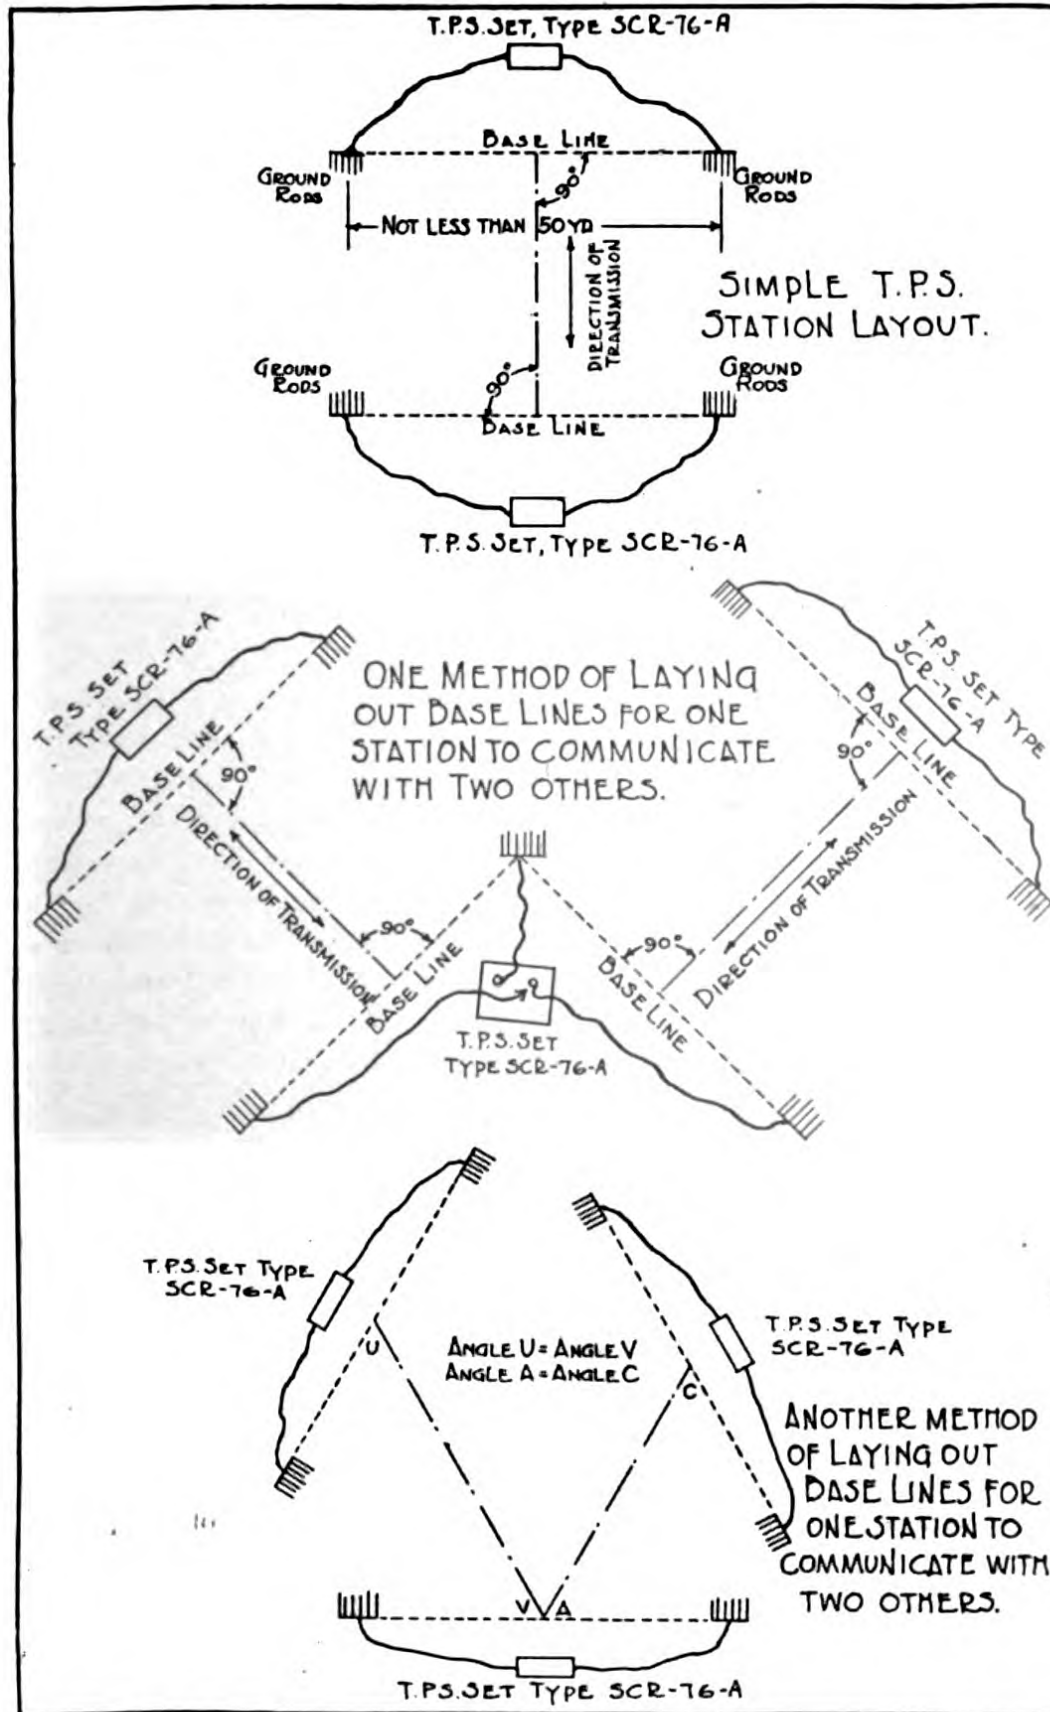

FIG. 6.—Methods of Laying Out a Simple T. P. S. Station, and One Station to Communicate with Two Others.
**How to Lay Out the Base Lines.**—When laying out the base lines of various stations communicating with each other, it is very important to follow the general rule of arranging them so that the imaginary straight line joining the centers of the base lines of the stations will make equal angles with the two base lines, the angles considered being taken on the same side of that imaginary line and between the base lines. The best position is that in which the two base lines are parallel to each other and the line joining their centers makes right angles with them. This arrangement is indicated in the first drawing of Fig. 6. The other two drawings show the applica-